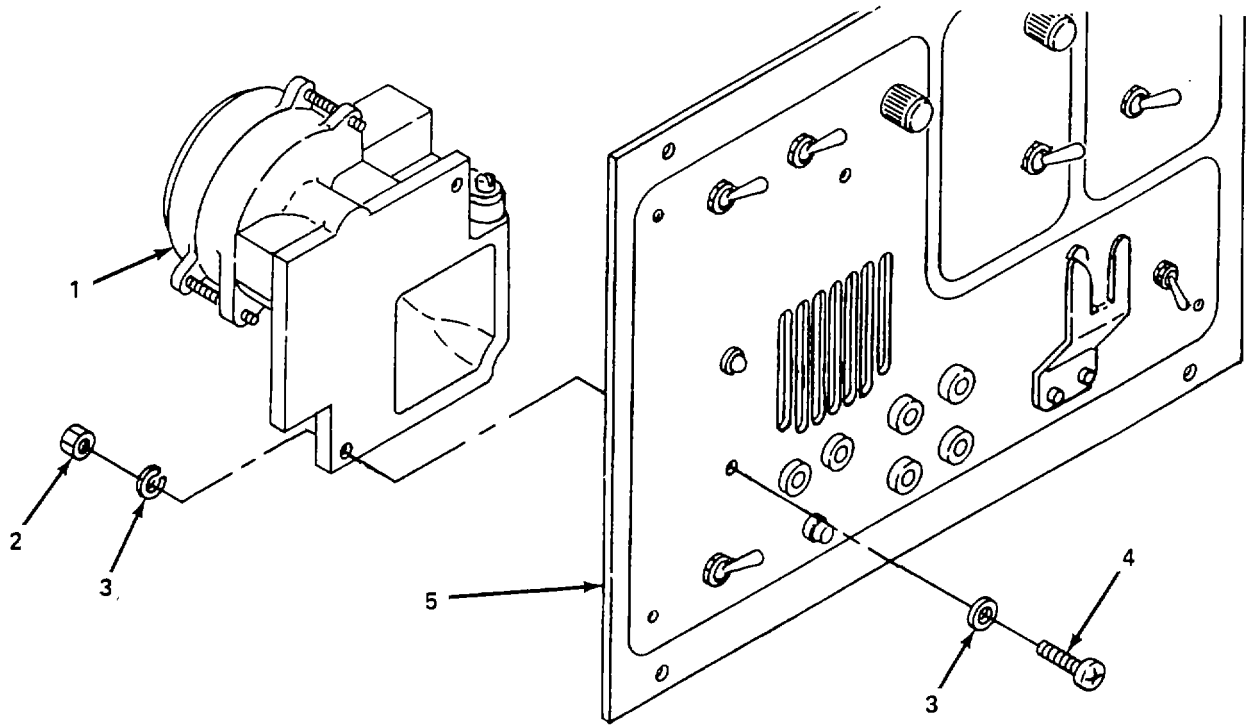

Figure 5-38. Front Panel Chassis Assembly Power Speaker Assembly, Replace.
(7) *Replace power speaker assembly.* (figure 5-38)